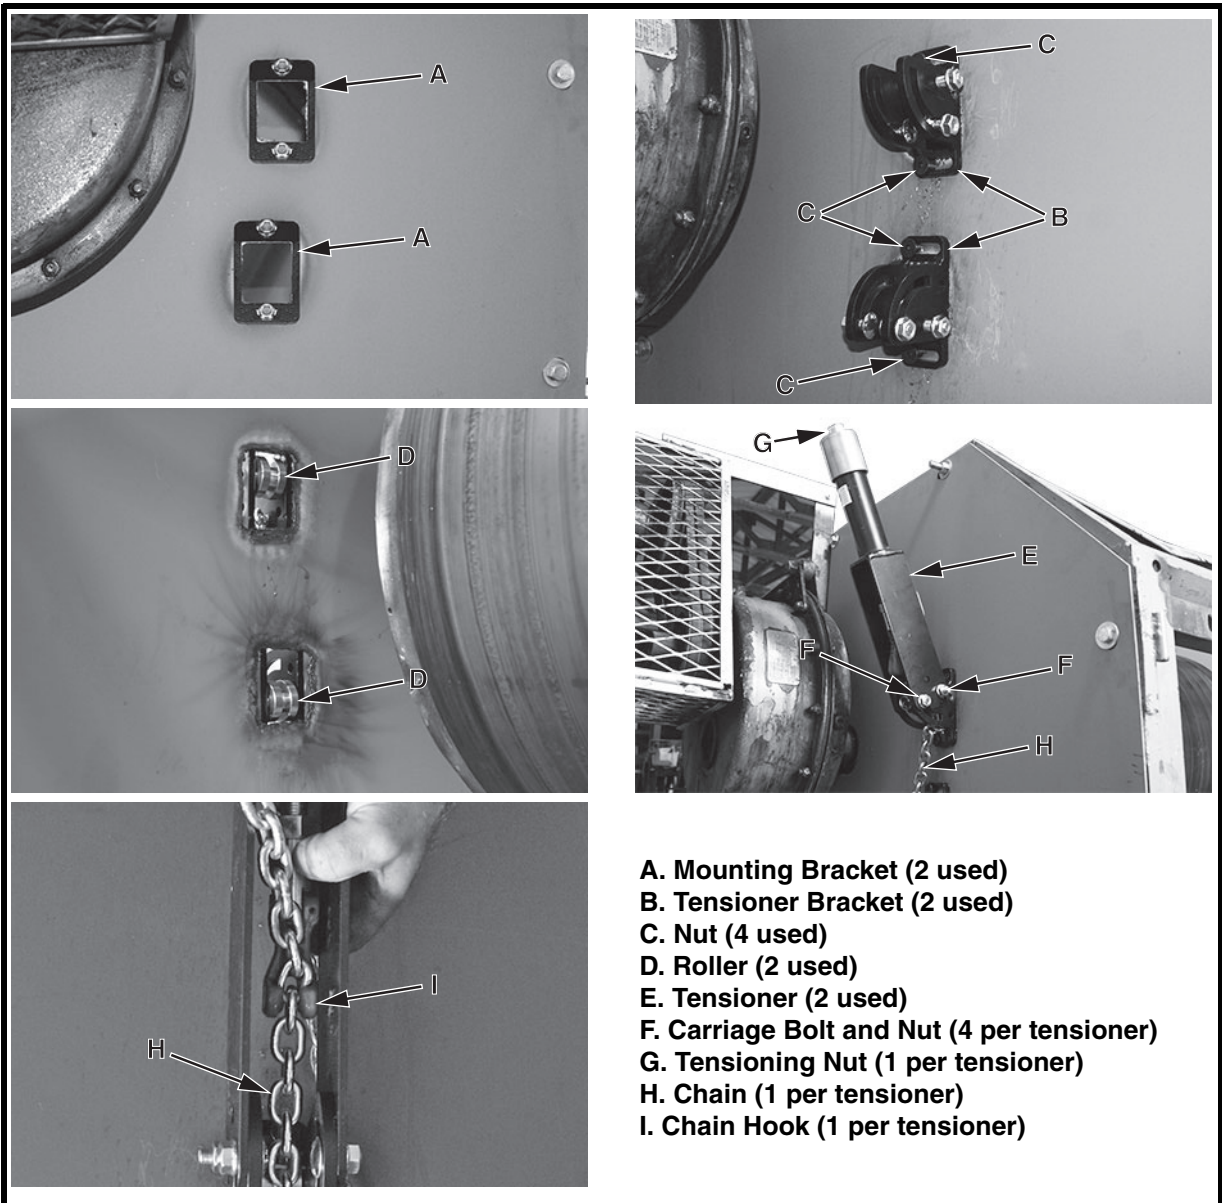
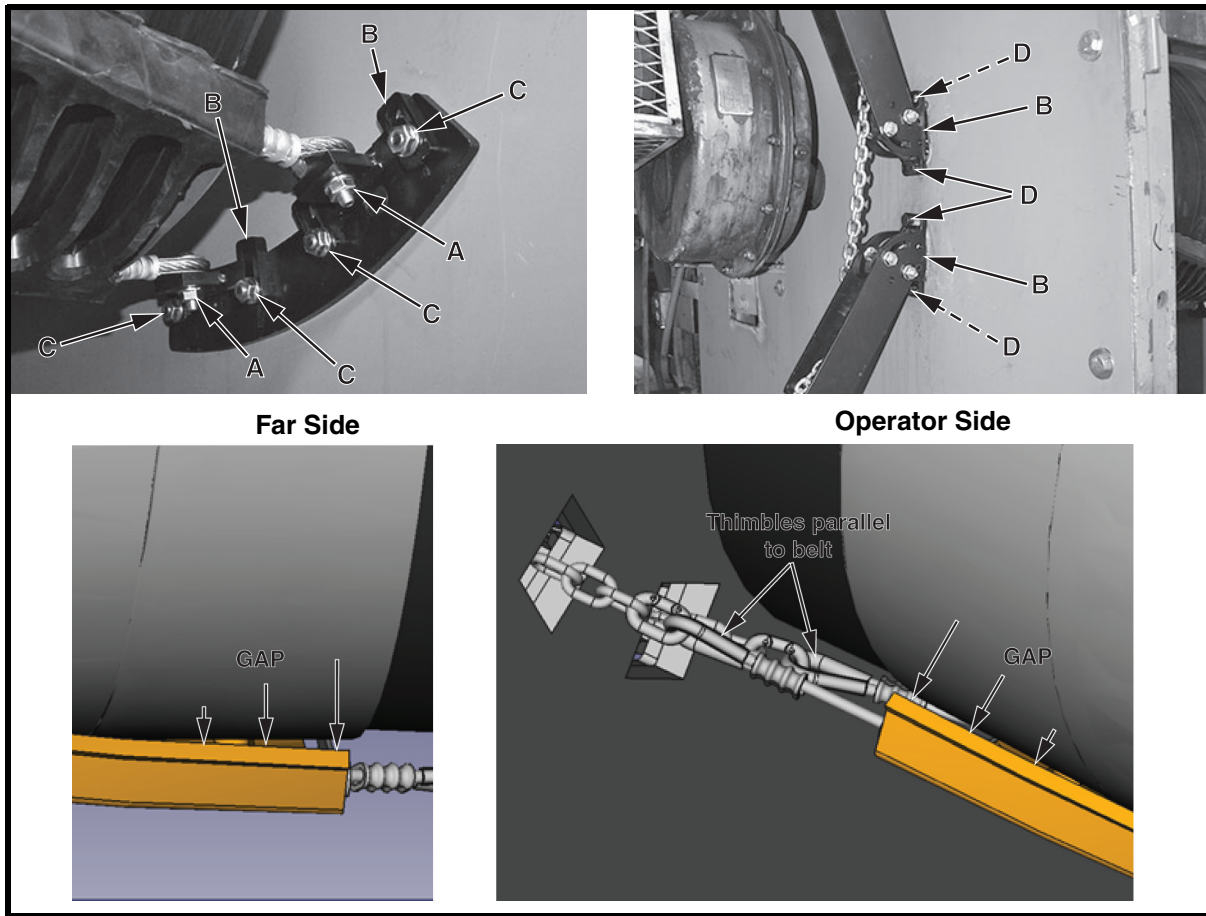

Figure 8. Installing Tensioners
Figure 9. Positioning Cleaner
- f. Center mounting brackets (A) on cutouts and weld to chute wall (see Figure 8).
- g. Mount tensioner brackets (B) onto mounting bracket using nuts (C). Hand tighten nuts. Position top bracket with roller (D) in the upper position and bottom bracket with roller (D) in the lower position.
7. Mount tensioner (E) onto bracket using carriage bolts and nuts (F).
8. Position tensioner in desired location free from obstructions and tighten nuts (F).
9. Loosen nut (G) to the end of the threaded rod.
11. Route chain (H) through chute wall and tensioner bracket.
12. Pull chain into hook (I).
14. Ensure thimbles are parallel to belt (Figure 9).
15. Tighten tensioner nut (G) until center of cleaner is held firmly against head pulley.
16. Make sure each chain contacts roller in tensioner bracket (B) properly.
- a. If threaded spindle is not long enough to achieve desired tension (see Figure 8):
- (1) Insert screw driver through hole in the lower part of the tensioner and chain (H), to secure the chain.
- (2) Loosen tensioning nut (G) to release tension.
- (3) Reinstall chain in hook (I) as close to the screw driver as possible.
- (4) Tighten tensioning nut until required tension is achieved.